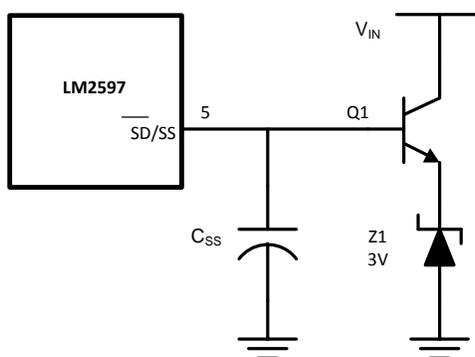

Figure 34. External 3.7V Soft-Start Clamp
- Normal operation.** Above 2.8V, the circuit operates as a standard Pulse Width Modulated switching regulator. The capacitor will continue to charge up until it reaches the internal clamp voltage of approximately 7V. If this pin is driven from a voltage source, the current must be limited to about 1 mA. If the part is operated with an input voltage at or below the internal soft-start clamp voltage of approximately 7V, the voltage on the SD/SS pin tracks the input voltage and can be disturbed by a step in the voltage. To maintain proper function under these conditions, it is strongly recommended that the SD/SS pin be clamped externally between the 3V maximum soft-start threshold and the 4.5V minimum input voltage. Figure 34 is an example of an external 3.7V (approx.) clamp that prevents a line-step related glitch but does not interfere with the soft-start behavior of the device.